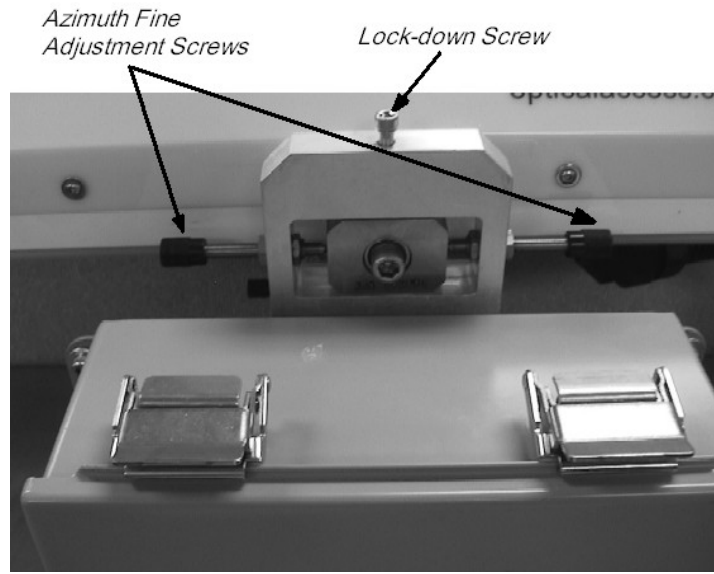
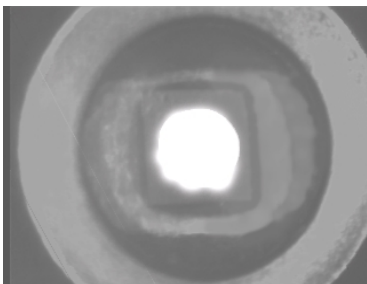

Figure 8. Azimuth Fine Alignment and Lock-down Screws.
Figure 9. Picture of laser aligned in center of detector.
the other should be tightened against it. This provides a locking mechanism (see Figure 8). Using the spotting scope, align the crosshairs to the other site.
5. Watch the TV as the fine alignment screws are adjusted. The TV is monitoring the internal camera, which is focused on the detector. The center of the detector is located in the center of the display. The goal is to adjust the alignment such that the light from the other unit is centered on the detector (see Figures 9 and 10 for examples). Note that the appearance of the detector on the screen may be affected by the amount of ambient light. For this reason, the picture will appear brighter during the day and darker at night. Once both units are aligned, double check that the adjustment screws are tight against each other and that the top lockdown screw on the azimuth axis is tight (see Figure 8).